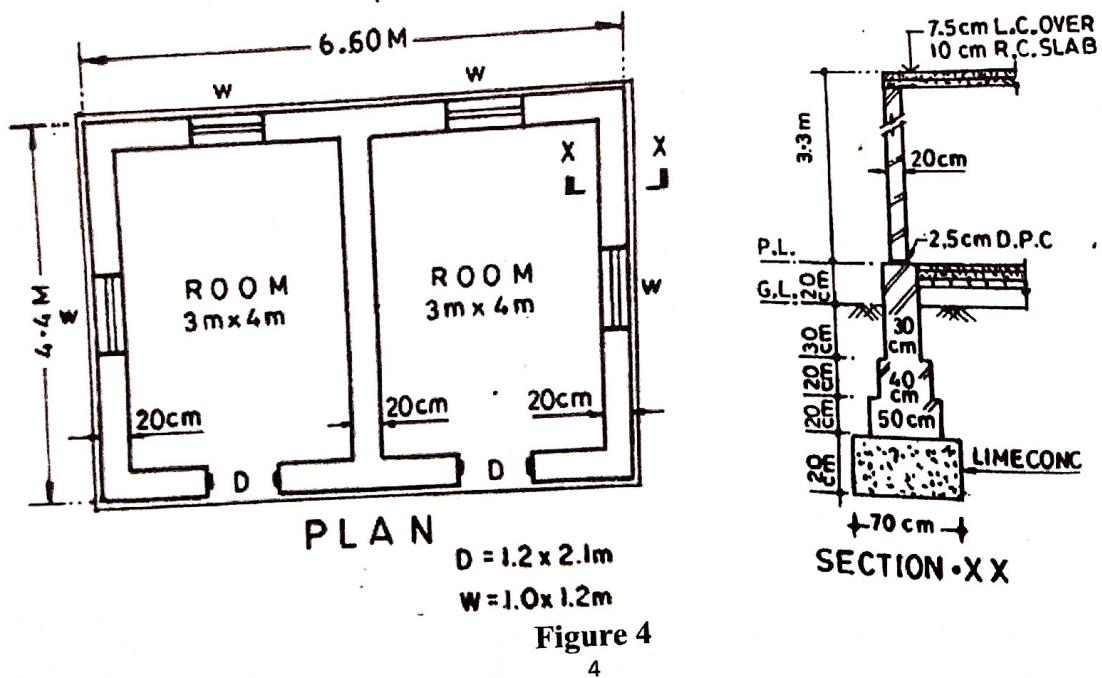

Figure 4
- 5 Find out the quantities of following item of work from Figure 4 3+3+4